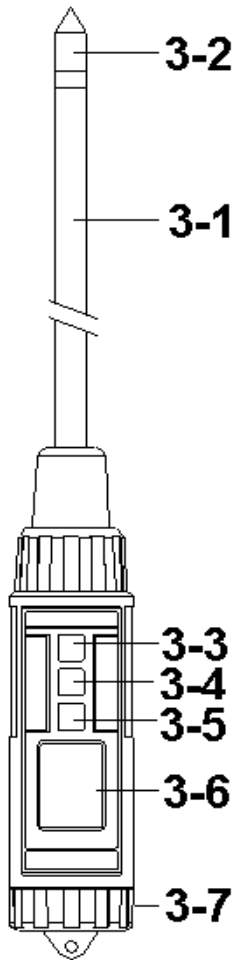

Fig. 1
1) Turn on the meter by pressing the " Power Button " ( 3-3, Fig. 1 ) momentarily.
*\* Press the " Power Button " ( 3-3, Fig. 1 ) momentarily again will turn off the meter.*
2) Insert the " Moisture sensing head " ( 3-2, Fig. 1 ) into the measured soil.
- \* During the measurement, press the " Hold Button " ( 3-4, Fig. 1 ) momentarily to hold the measured value. The LCD will show a " HOLD " symbol.
- 1) The data record function records the maximum and minimum readings. Press the " REC Button " ( 3-5, Fig. 1 ) momentarily to start the Data Record function, shows " REC " on the display.
- a) Press the " REC Button " ( 3-5, Fig. 1 ) momentarily, the " REC MAX " symbol along with the maximum value will appear on the display.
- b) Press the " REC Button " ( 3-5, Fig. 1 ) momentarily again, the " REC MIN " symbol along with the minimum value will appear on the display.
- \* *When display shows " REC MAX " or " REC MIN ", press the " Hold Button " ( 3-4, Fig. 1 ) momentarily will delete the max. ( min. ) value, the display will show the " REC. " only and execute the memory function continuously.*
- \* To change the batteries, open ( rotate clockwise direction ) the " Battery Cover " ( 3-7, Fig. 1 ).
- \* Make sure the " Battery cover " (3-7, Fig 1) is secured after changing the batteries.